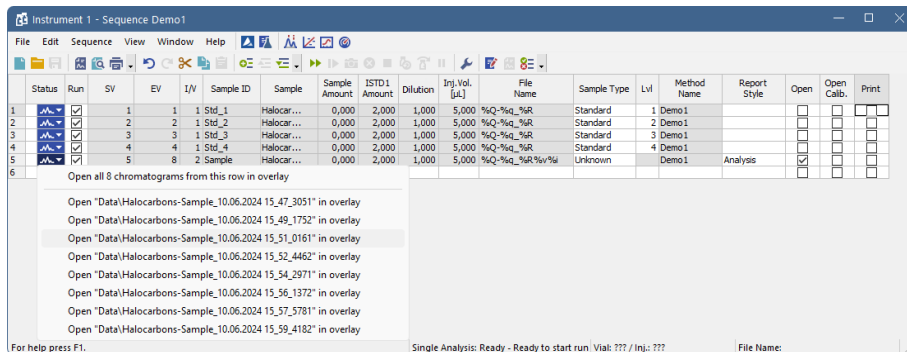

Fig. 16: Opening chromatograms in overlay
- A small triangle will appear in the icon  if a chromatograph is produced by the particular measurement in the row. Left mouse click on the triangle will open the menu where you can open the measured chromatogram(s). You can click on the name of the chromatogram to open it or select option to open all chromatograms in overlay as seen in **Fig. 16** on pg. 27.